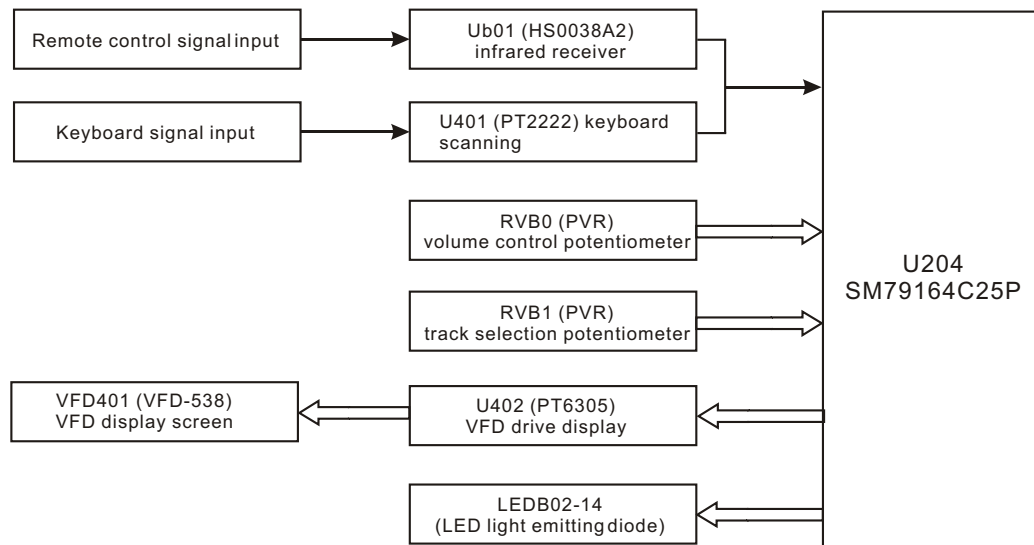

Figure 3.2.12.1 Panel control circuit block diagram
1. Panel control circuit block diagram is shown in the following figure 3.2.12.1: